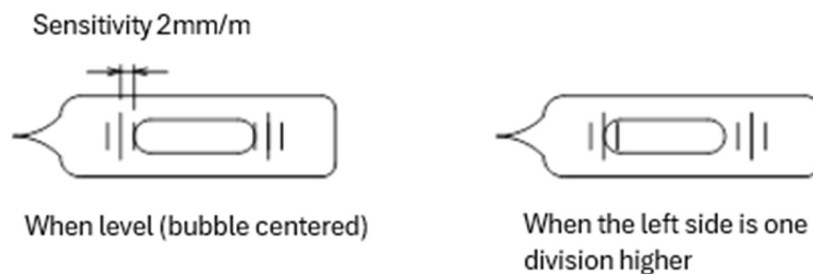

Figure 4. Determining Height by the Main Vial
- ① As shown in Figure 4, this inclinometer level uses a vial with a sensitivity of 2 mm per 1 m, corresponding to approximately 7 minutes of arc for one division of bubble movement. For example, if the bubble shifts one division to the left, the height t is 2 mm.